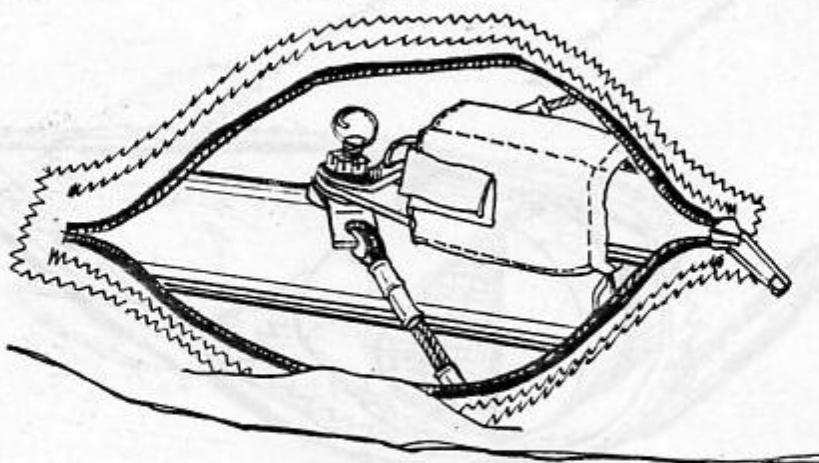

Fig. 3.4.4.
4. Look through the open bottom surface pockets near the crossbar / leading edge junction and check that this junction is safely secured with the castle nut and the safety ring. Check that the bottom side wire is attached to the crossbar / leading edge junction properly. Check that the wire is not twisted and is not caught up (Fig. 3.4.4.).